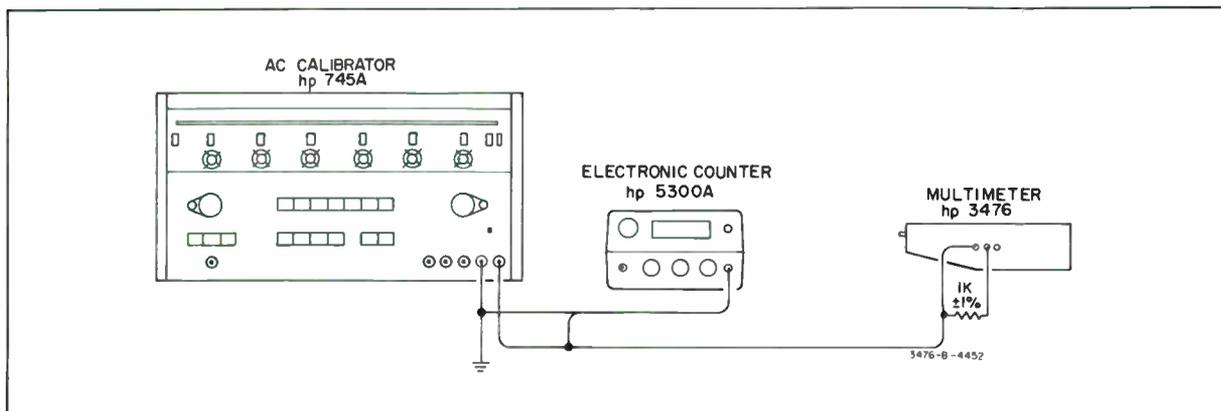

Figure 5-4. Common-Mode Rejection Test.
- c. Connect the AC Calibrator HI output terminal to the Multimeter as shown in Figure 5-4.